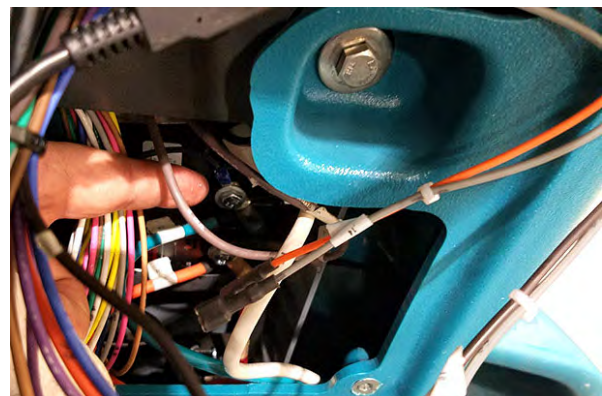

FIG. 11
- 19.Remove the hex nut from propel controller B-terminal. (Fig. 11)
- 20.Connect the blue spotlight harness (3) RT1 lead to the propel controller B- terminal and reinstall the previously removed hex nut onto the propel controller B- terminal. (Fig. 11)